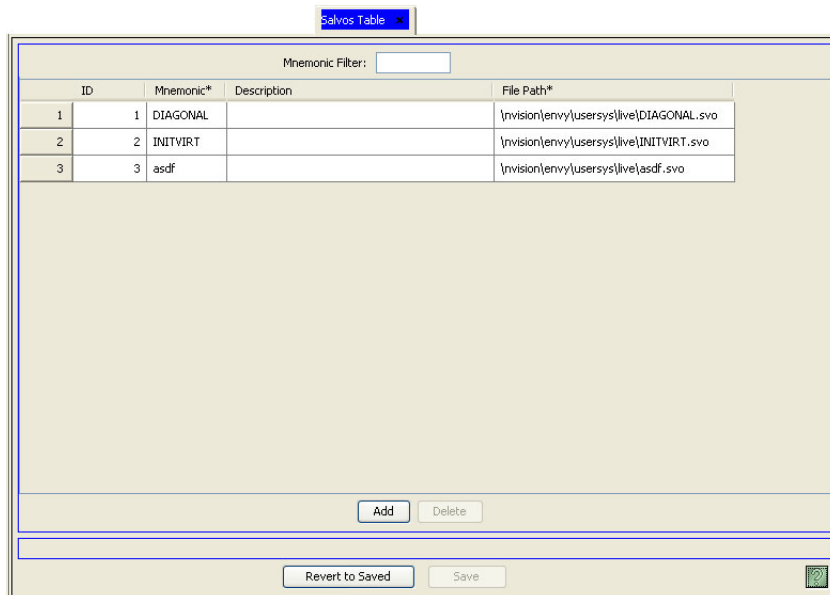

Figure 15-21. Salvo Table
- 2 From the Navigation area, select the ‘Views’ pane and then ‘Salvo’. The ‘Salvo’ table appears, as shown in Figure 15-21.